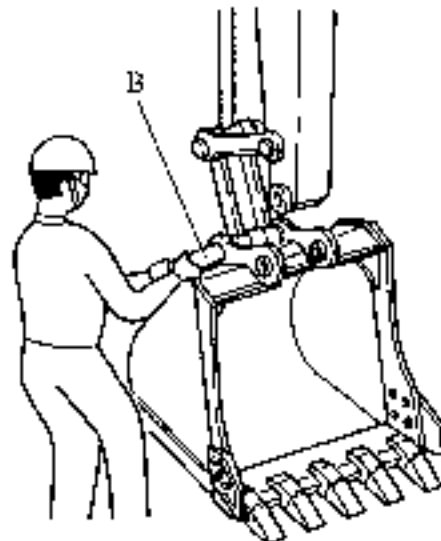

Fig. 2 Removing link pin
- 3) Adjust the bucket by manipulating the operating lever so the pin (B) between the bucket link and the bucket is not loaded.
- 4) Remove the pin securing ring and the pin in the bucket embossment, using a flat-bladed screwdriver and draw out pin (B). (See Fig. 2)